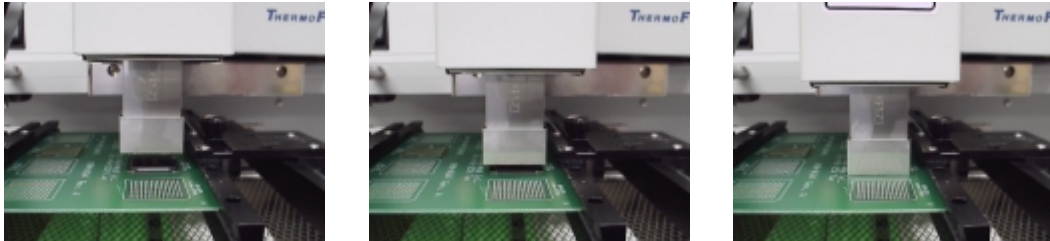

Figure 11: Properly Positioned Nozzle in Relation to PCB
- 5) Confirm that the component position is aligned with the nozzle. Press and hold the NOZZLE DOWN button. The reflow head will lower itself, slowly. Lower the reflow head until there is no gap between the nozzle and the PCB. See Figure 11. If you need to raise the reflow head up by a slight amount, press the NOZZLE UP button briefly.